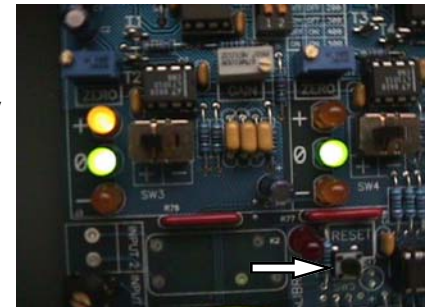

Fig 4.1 LED indicators: left amplifier is adjusted high; right is set correctly; arrow is reset button
4. Adjust the COARSE and FINE pots for Channel A until **only** the GREEN LED's are lit. The (+) and (-) LED's indicate which way the setting is off from Zero. Turning the pots clockwise increases the setting; counterclockwise decreases. (Fig 4.1)